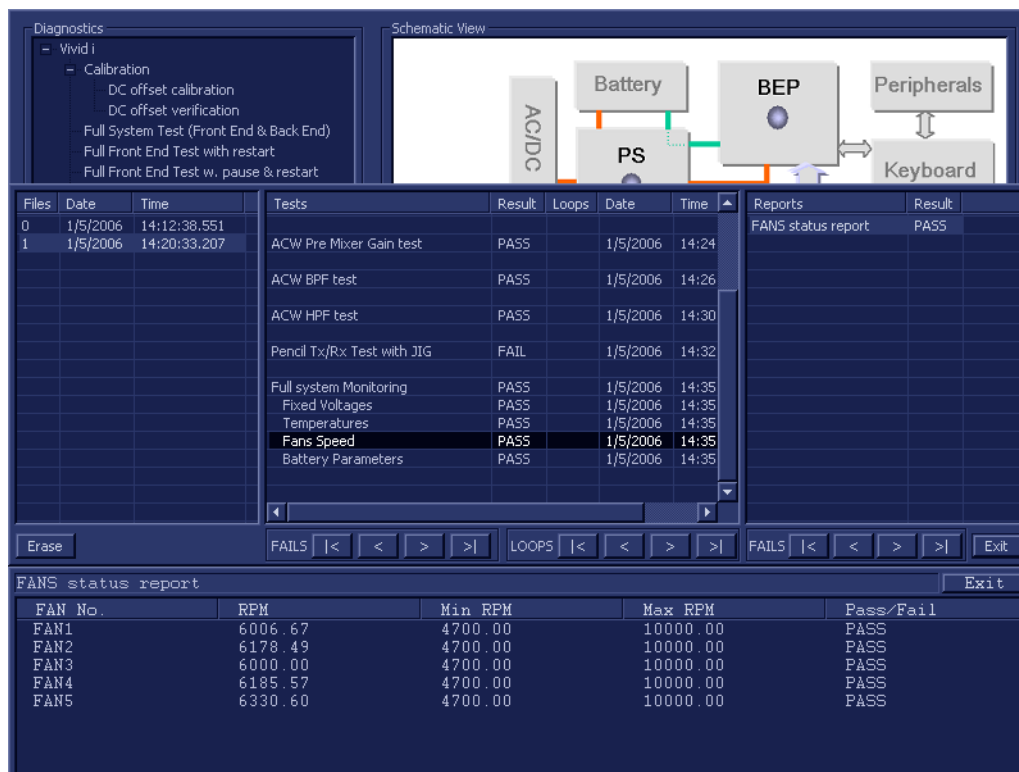

Figure 7-61 View Test Log - Full System Monitoring Test - Fans Speed
- 12.) Select the third report (Fans Speed); the report is highlighted in the *Reports* list, and the corresponding results are shown in the Report window below, as shown in Figure 7-61.